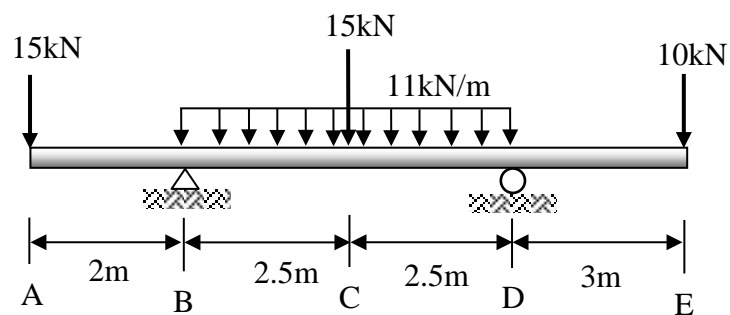

Figure 2(a) / Rajah 2(a)
- (a) An overhanging beam carry a point load and uniformly distributed load as shown in **Figure 2(a)**. If the beam is equilibrium, determine the vertical reaction at each support of the beam.